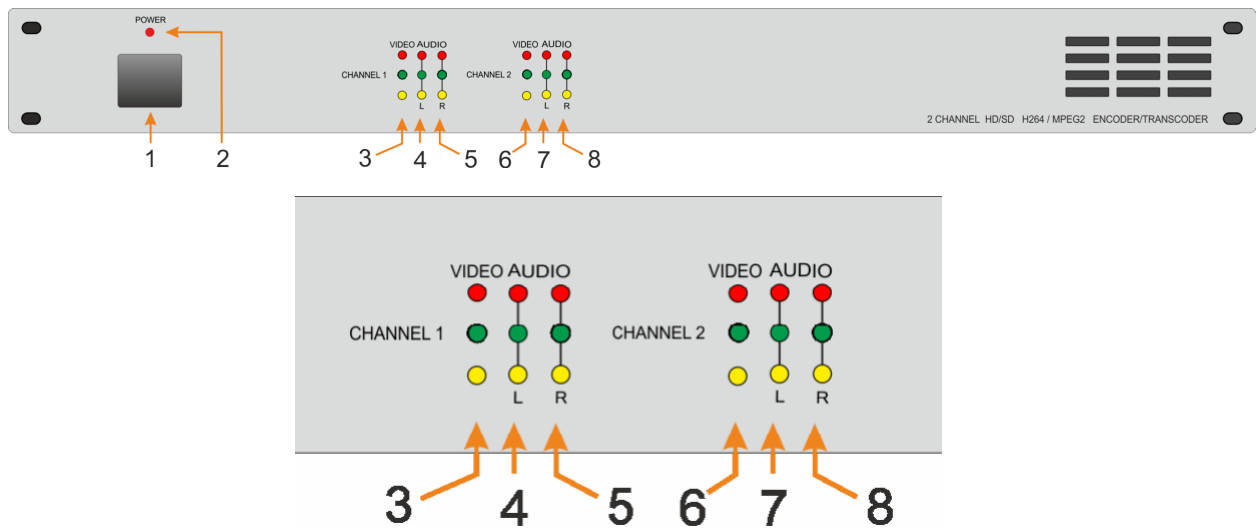

Fig.1.1
- Switch on Power (1.Fig.1.1).